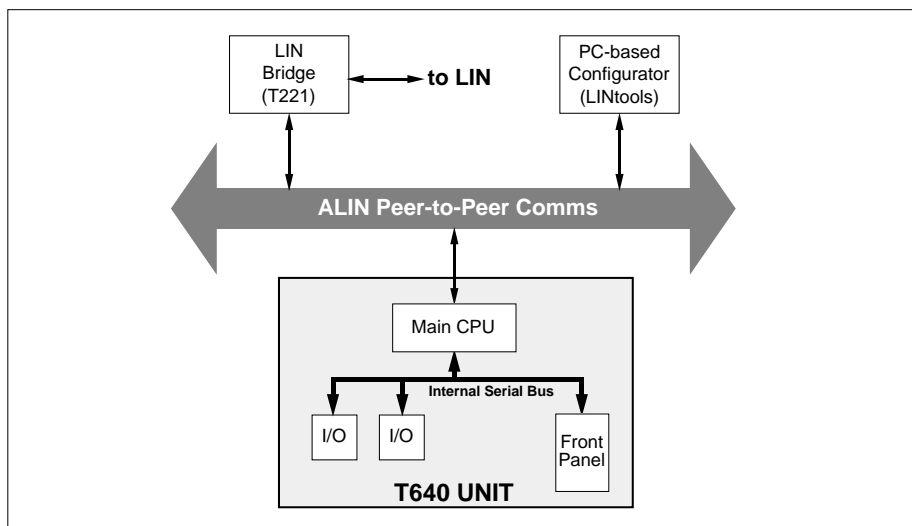

Figure 9-2 ALIN communications schematic
**ALIN peer-to-peer comms.** A high-speed (2.5Mbaud) short-distance form of the LIN, the ALIN is the main communications channel in the instrument, used for configuration, supervision, and inter-instrument communication. See Figure 9-2. It supports all current LIN features — block attachments, field writes, file transfers, etc. — except channel redundancy. ALIN and LIN can be interconnected via a T221 bridge.